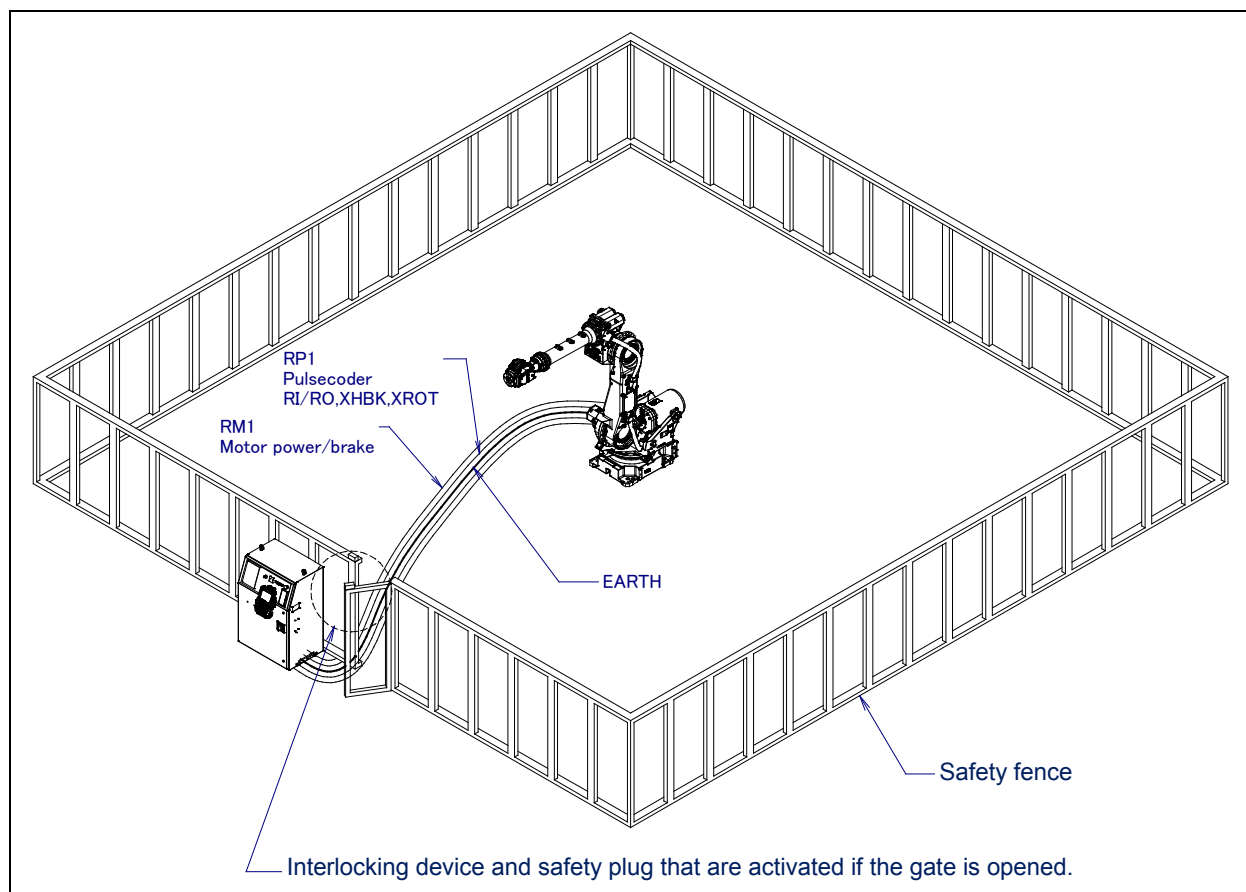

Fig. 3 (a) Safety fence and safety gate
- (14) Before the robot is started, it should be checked that no one is inside the safety fence. At the same time, a check must be made to ensure that there is no risk of hazardous situations. If detected, such a situation should be eliminated before the operation.
- (15) When the robot is used, the following precautions should be taken. Otherwise, the robot and peripheral equipment can be adversely affected, or workers can be severely injured.
- (16) When connecting the peripheral equipment related to stop (safety fence etc.) and each signal (external emergency, fence etc.) of robot, be sure to confirm the stop movement and do not take the wrong connection.
- (17) When preparing footstep, please consider security for installation and maintenance work in high place according to Fig. 3 (c). Please consider footstep and safety belt mounting position.